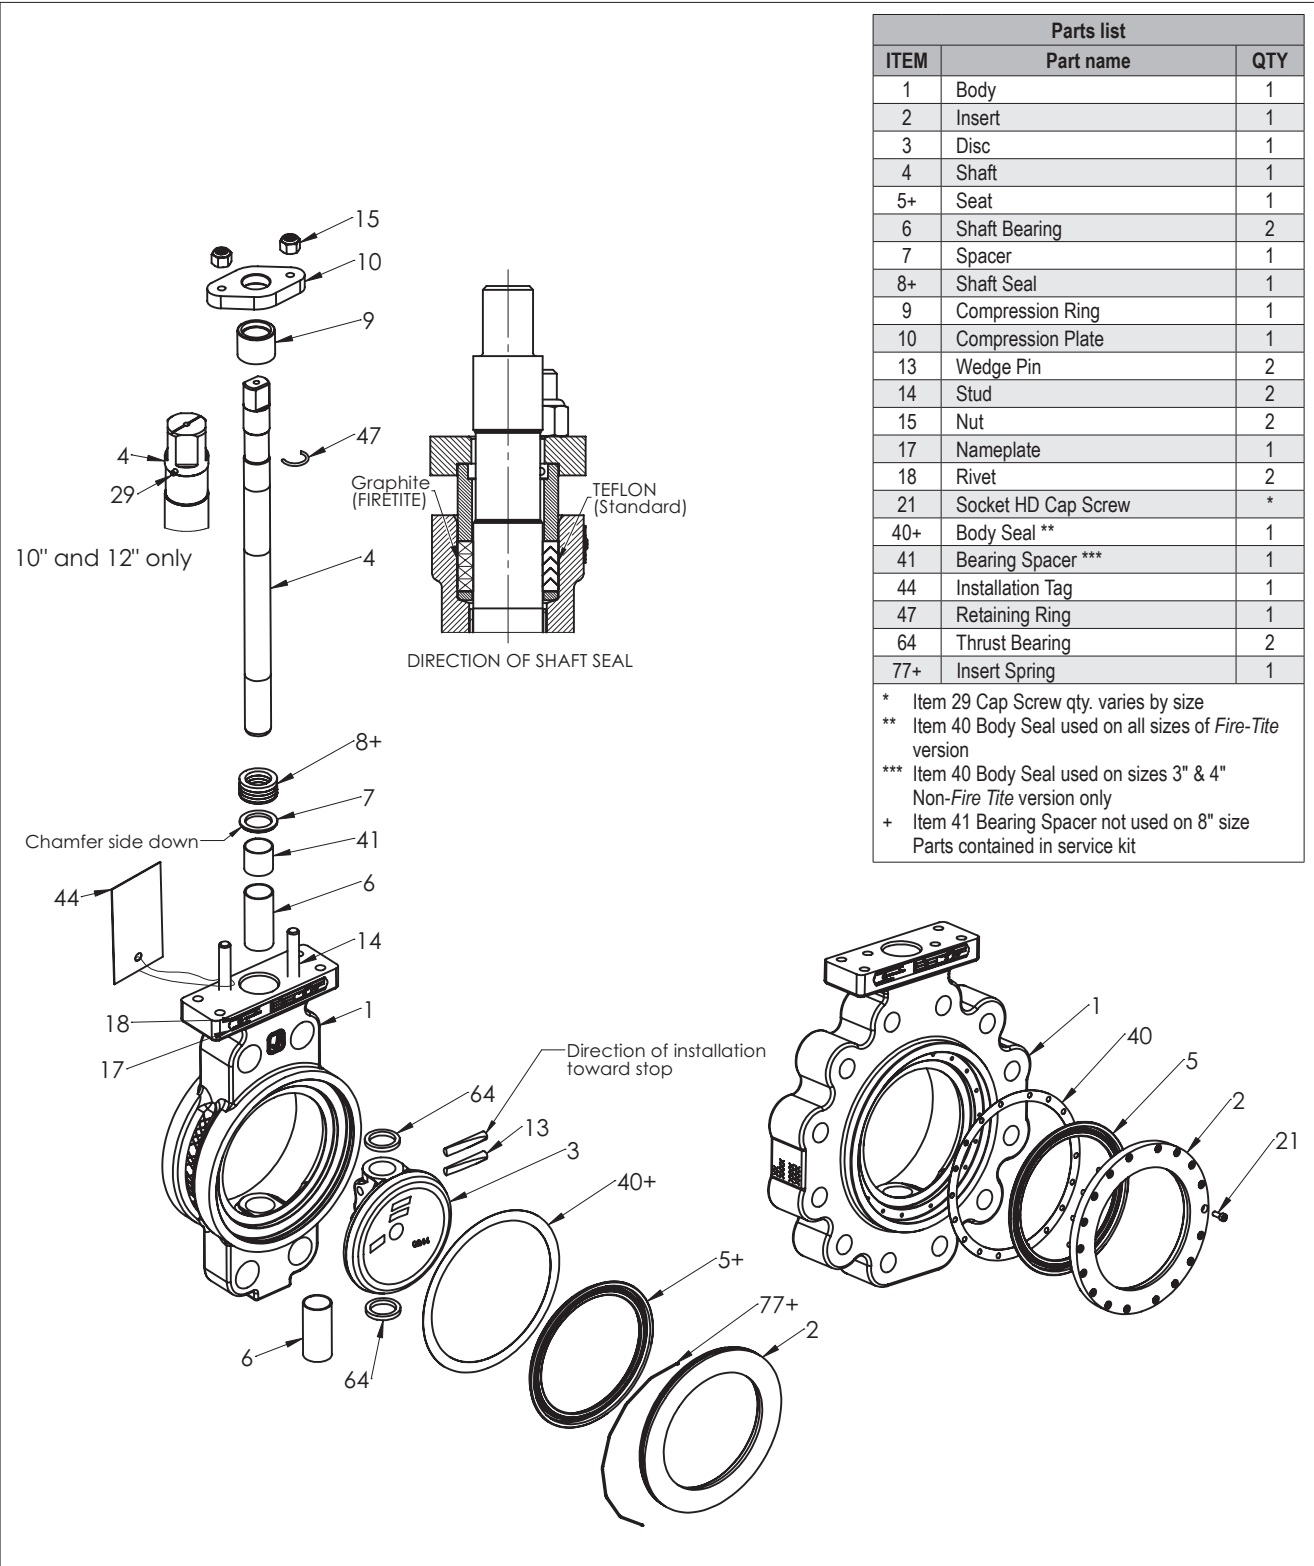

Figure 12.
3. Place the coupling onto the valve stem. If the valve has a two-piece “no-play” bolted coupling, assemble the coupling loosely on the valve stem. Use socket head cap screws and lock nuts (See **Figure 12**).